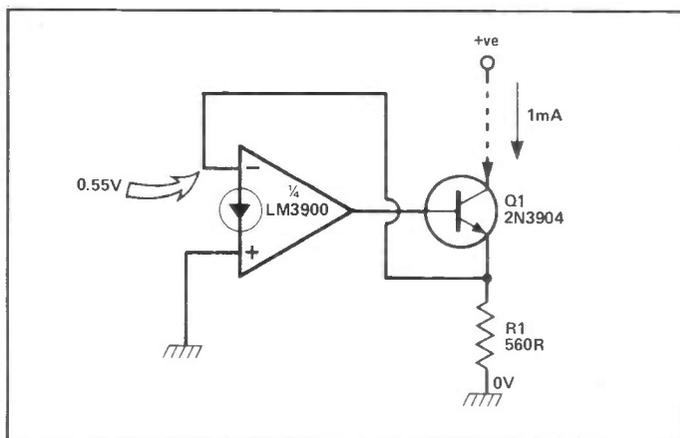

Figure 29: Simple 1 mA current sink.
**Figure 29** shows a simple 1 mA current sink, in which a fixed current flows in any load connected between the positive supply rail and Q1 collector, almost irrespective of the load impedance. Here, the non-inverting terminal of the op-amp is disabled, and 100% negative feedback is used between the output of the circuit (Q1 emitter) and the inverting terminal. The voltage across R1 is thus equal to the  $V_{be}$  of the inverting